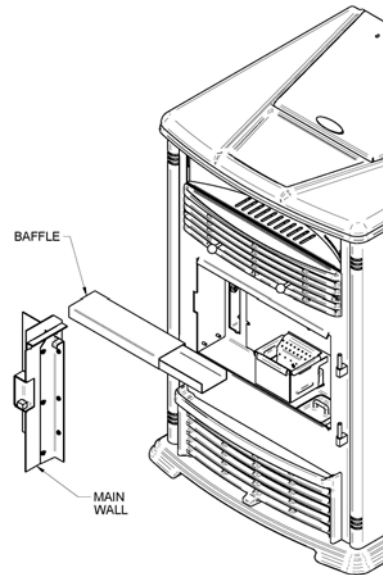

Figure 42
- With the door closed, clean heat exchanger tubes by sliding the cleaning rod back and forth. (see Cleaning section and Figure 42 & 43) .